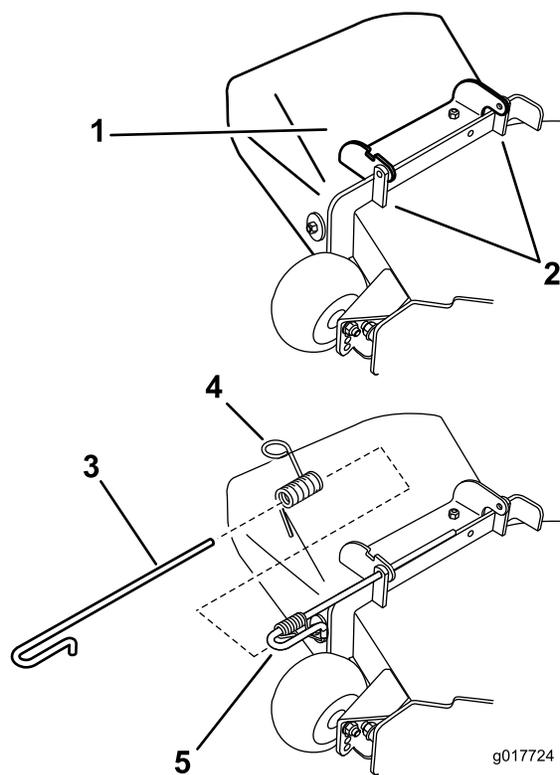

Figure 75
1. Disengage the spring from the notch in the deflector bracket and slide the rod out of the welded deck brackets, spring, and discharge deflector (Figure 75).
3. Position the new discharge deflector assembly with the bracket ends between the welded brackets on the deck as shown in Figure 75.
4. Install the spring onto the straight end of the rod. Position the spring on the rod as shown in Figure 75 so